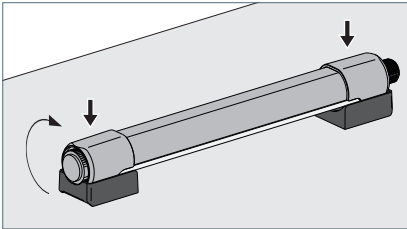

Fig. 11: Mounting the luminaire.
- ▶ Turn the luminaire along the holders by at least 90°, so that the detent lugs of the holders snap into the grooves of the side parts of the luminaire, see Fig. 11.